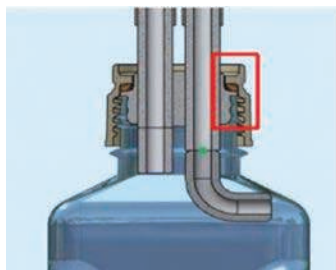

Figure 3a
b. Liquid dropped in to a bottle vertically from a cap will result in foam. So to avoid this a slow filling rate is required. This foaming can be mitigated by running the liquid down the side of the bottle thus allowing for a faster filling rate. To facilitate this, Parker developed a J- tube system which diverts the flow of liquid to the bottle side. The design and effect of the J tube configuration can be seen in Figures 3a, 3b and 3c.
Figure 3a shows the J-Tube design directing the fluid flow to the side of the bottle